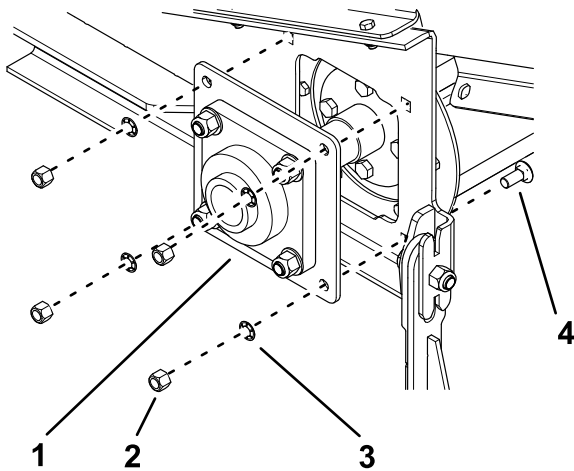

Figure 12
1. Bolt—1/2 x 1-3/4 inch (2)
2. Locknut—1/2 inch (2)
6. On the opposite side of the broom, remove the 4 bolts (1/2 x 1-1/4 inch), 4 spring washers, and 4 locknuts (1/2 inch) securing the bearing mount plate (Figure 12). Remove the bearing mount plate with the bearing still attached.
7. Install the bearing mount plate (Figure 12).